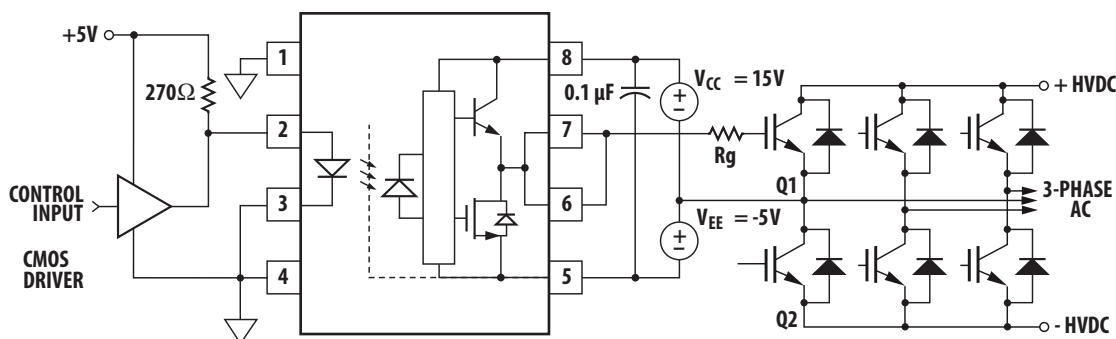

Figure 26. ACPL-312T typical application circuit with negative IGBT gate drive.
Step 1: Calculate R_g Minimum from the I_{OL} Peak Specification. The IGBT and R_g in Figure 26 can be analyzed as a simple RC circuit with a voltage supplied by the HCPL-3120.
For the circuit in Figure 26 with I_F (worst case) = 16 mA, $R_g = 8 \Omega$, Max Duty Cycle = 80%, $Q_g = 500 \text{ nC}$, $f = 20 \text{ kHz}$ and $T_A \text{ max} = 85^\circ\text{C}$: